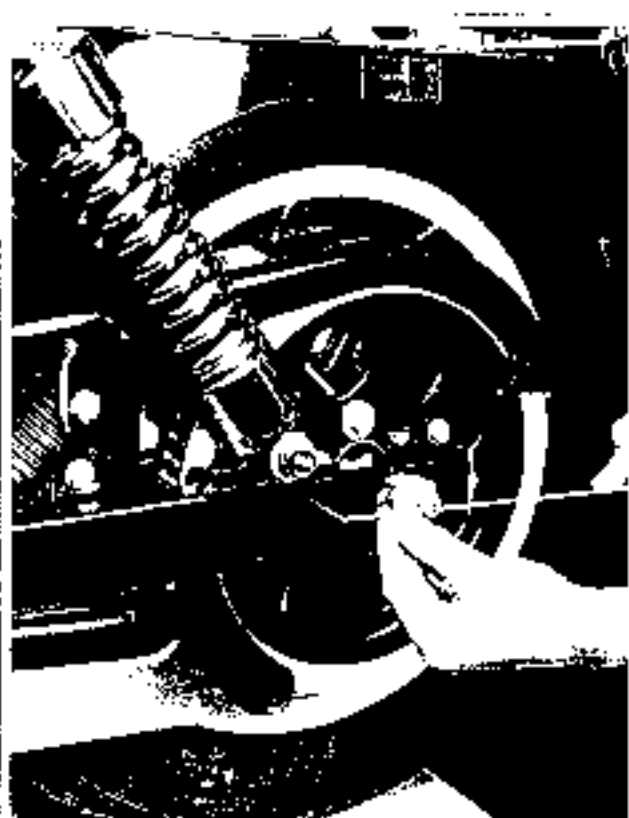

Figure 2-61. Measuring Alignment
4. See Figure 2-61. With the blunt point of the alignment tool inserted in the rear fork pivot hole, slide the rubber grommet along the tool until it is aligned with the center of the axle as shown. Repeat for the other side of the motorcycle.